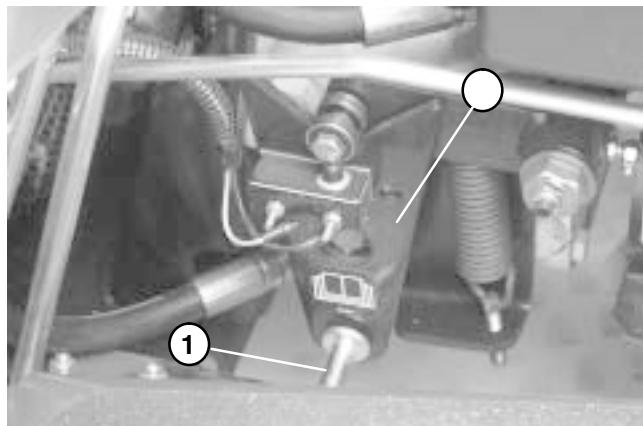
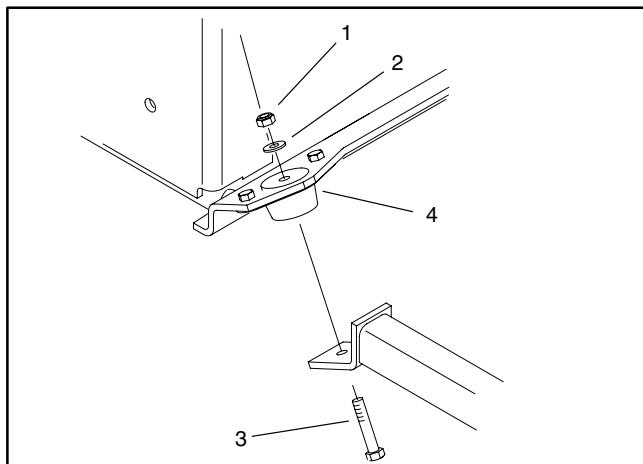

Figure 89
Figure 90
- Disconnect air hose from the air cleaner. Remove lower shroud from the cooler mount. Disconnect control rod from the pump lever (Fig. 89).
- Clean around hydraulic fittings (36) on the oil cooler (30). Disconnect hydraulic tube (37) and hose (28) from the cooler. Allow fluid to drain into a suitable container.
- B. Remove lock nuts, flat washers, and cap screws securing front engine mounts to the frame (Fig. 90).
- C. Secure front engine mounts to the frame with cap screws, flat washers, and lock nuts (Fig. 90).
9. Remove caps or plugs on disconnected hydraulic hose (28) and tube (37).
10. Make sure hydraulic fittings (36) on the oil cooler (30) are clean. Connect hydraulic tube (37) and hose (28) to the cooler.
11. Connect air hose to the air cleaner. Remove lower shroud to the cooler mount. Connect control rod to the pump lever (Fig. 89).
13. Fill hydraulic tank (40) with hydraulic fluid (see Check Hydraulic System Fluid).